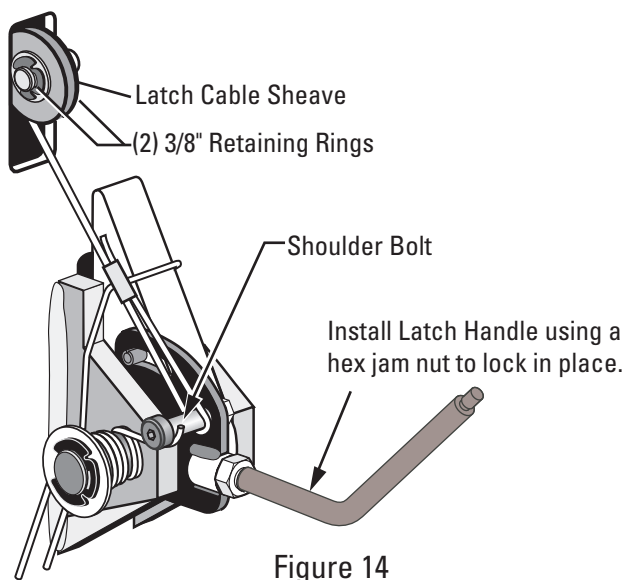

Figure 14
- A) Install latch cable sheave and retaining rings in upper slot of power unit column as shown, Fig. 14.
- B) Slip loop end of cable over end of shoulder screw on right side latch control plate, Fig. 14.
- C) Feed the other end of the cable through the latch cable sheave slot making sure that the cable is running under the bottom side of the latch cable sheave and inside the right column, Fig. 14.
- J) At this point you **MUST** install the latch handle, jam nut, and right column latch cover Fig. 14 & Fig. 17. Install latch handle ball, Fig. 17.
- D. To prevent the carriages from rubbing the hoses, pull the hoses upward taking out any slack between the cylinder fitting port and the cylinder mount. Secure the hoses to the mainside cylinder with a wire tie around the tee and the cylinder. The tee should be positioned to aim directly out through the grommet, figure 14. Secure the hose to the offside cylinder at approximately the same height with a wire tie.